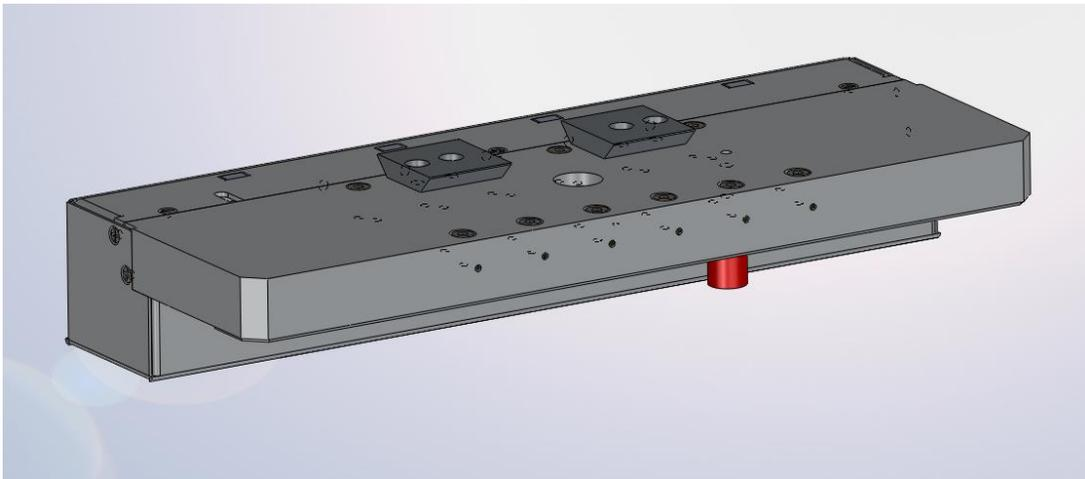

Figure 10 Lens Changer Module - 4 positions
10. The 4 position lens changer holds 4 infinity corrected microscope objectives. The mounting interface is an M26x36 thread. As viewed in Figure 10, objective positions run, right-to-left, 1 through 4. Position 1 is on the right and position 4 is on the left. NOTE – The lens changer accommodates 1 large diameter objective such as Mitutoyo® HR series. This lens must be placed in position 4 of the lens changer.